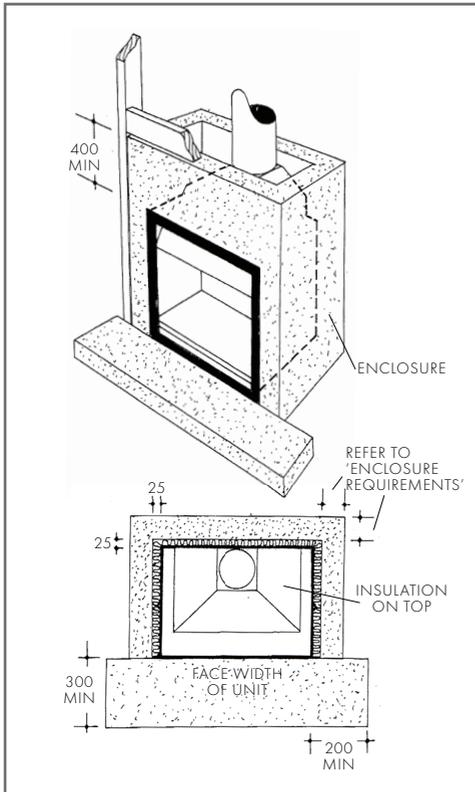

FIGURE 2
2.2. ENCLOSURE REQUIREMENTS (FIG 2)
The enclosure must be of non-combustible materials i.e. masonry, 75mm Hebel blocks or equivalent material as otherwise specified by the manufacturer. The enclosure must completely surround the sides, back and breast above the unit, as shown in Fig 2. Place the insulation on top of the units gather and tuck into enclosure.
5. If installing with Zero Clearance Box, skip to Step 6. If installing into masonry, construct enclosure as required and place the insulation provided on top of unit, gather and below optional brickwork lintel. (Refer "2.2. Enclosure Requirements (Fig 2)" on page 3)